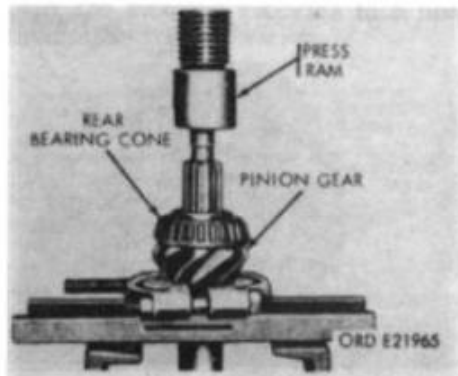

Figure 83. Removal of through shaft pinion gear and rear bearing cone
- (2) Install an adapter assembly around the through shaft directly beneath pinion gear (fig. 83). Place through shaft between the two iron spacers and press pinion gear and rear bearing cone from the shaft.